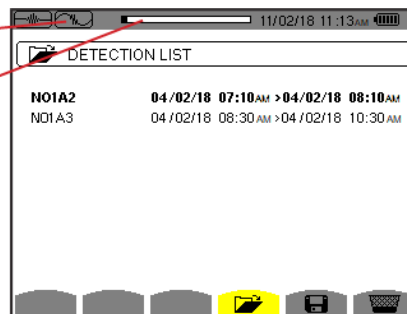

Figure 5-3
- If transients have been recorded, the Detection List is displayed (Figure 5-3).
When the list of searches for transients is displayed (see Figure 5-3), select the search to be erased. Move the cursor to it using the ▲ and ▼ buttons. The selected search is bolded. Then press the button. Press ↵ to validate or ↵ to cancel.